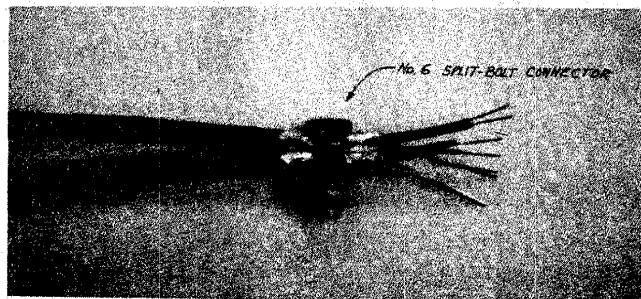

Figure 15
4.10 Clamp or bond the two aluminum shields together using a #6 Split-Bolt Connector as shown in Figure 15.